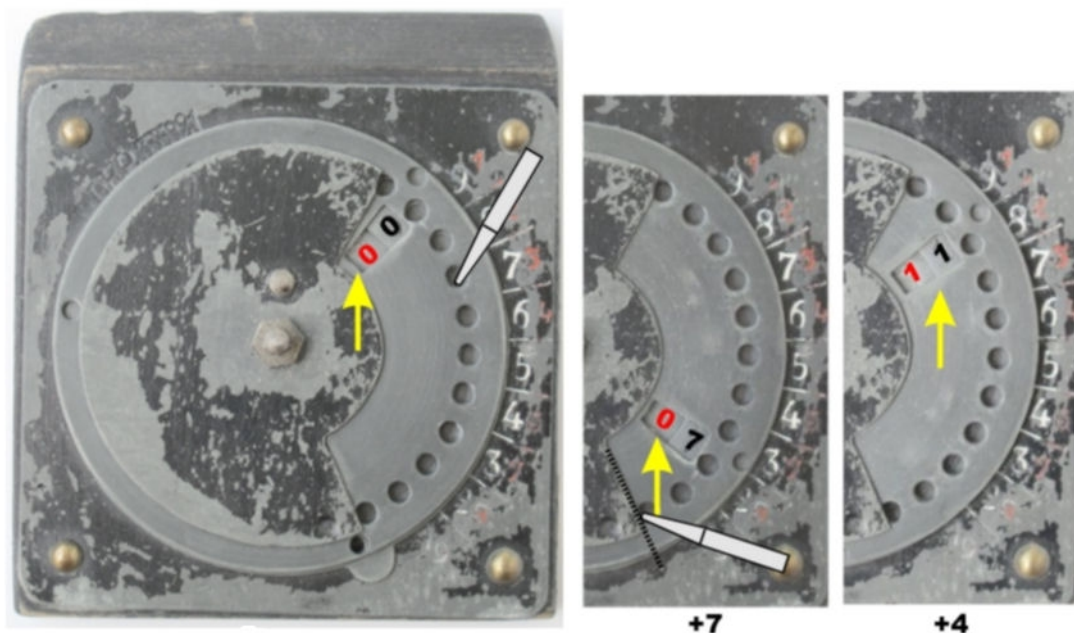

Fig. 1: Adding 7 and 4 with the device
Sometimes calculating aids hide a mechanism no one ever thinks of. Recently I analyzed a single digit adder. In fig. 1 an addition is shown. For this photographs I used one of the items in my collection. It was manufactured shortly after World War II when they used coated zinc plate and therefore the finish looks bad. If the user wants to add  $7 + 4$  he puts the stylus into the hole next to the white 7 and pulls it down clockwise until the movement is stopped at the stop edge near the bottom. During this movement a small window moves down too and shows the fixed black unit digits from 0 to 7. Within this small window the red tens digit 0 runs down. If the user adds 4 the small window disappears under the cover plate and another one appears again under the upper edge, now, since 10 is reached and exceeded, with a red tens figure. This way one can add up to 309. The red digits on the right side of the white ones are used with subtraction. For me it looked like this small device can perform a discrete, a stepped, tens carry. With this strange behaviour my curiosity arose.
- Fig. 1, 3: crated by the author,